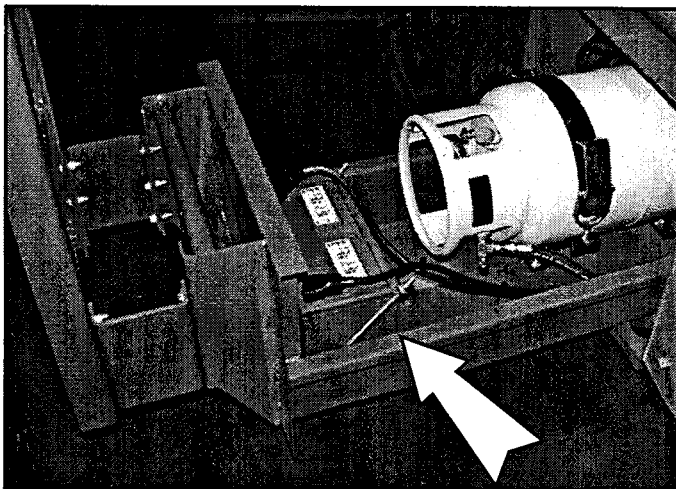

Figure 2-1: Battery (rear of machine)
4. Connect the negative (-) lead to the negative (-) battery terminal in the roll-out tray (see Figure 2-1).
3. Disconnect the battery negative (-) lead from the battery terminal (see Figure 2-1).